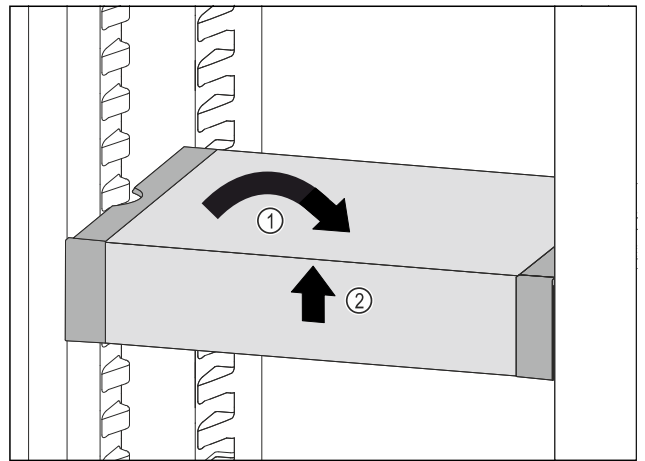

Fig. 37
- ▶ Set VarioSafe straight. *Fig. 37 (1)*
- ▶ Lift VarioSafe at the front. *Fig. 37 (2)*